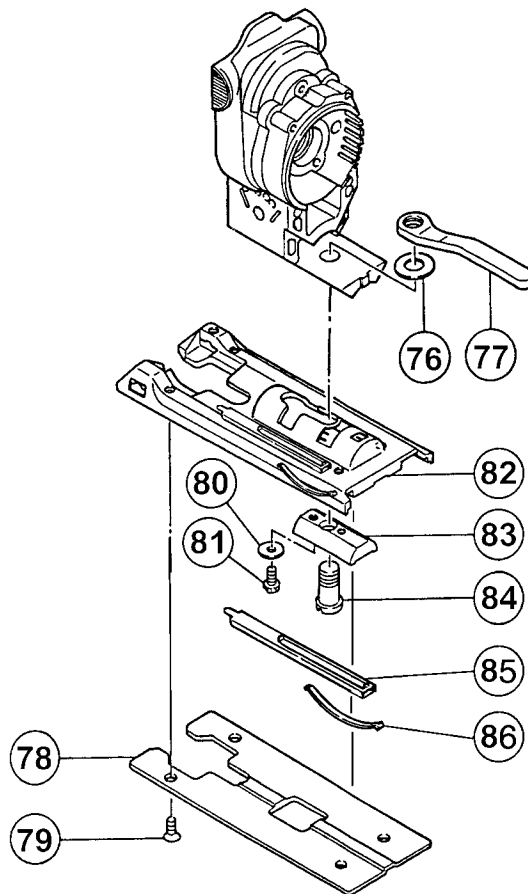

Fig. 3
(1) Disassembly of the Base **[82]** (Fig. 3)